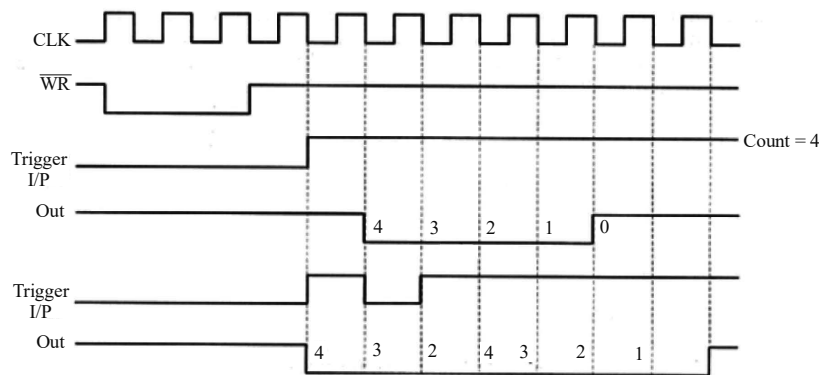

Fig. 4.14 Mode 1
- The signal waveforms are shown in Figure 4.14.